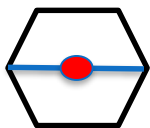

Figure 1
- > Proper lubrication level is middle of sight glass when the blower is "not" in operation. Refer to Figure 1